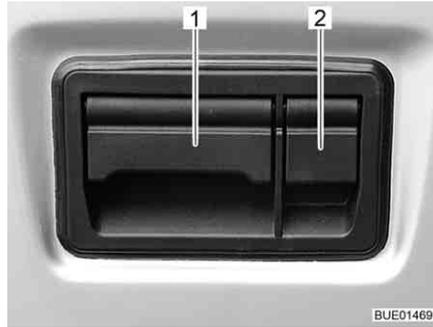

Fig. 35 Flap lock rear flap, outside
- Open the protective flap (Fig. 35,2).
- Pull the flap (Fig. 35,1) upwards and open the rear flap.